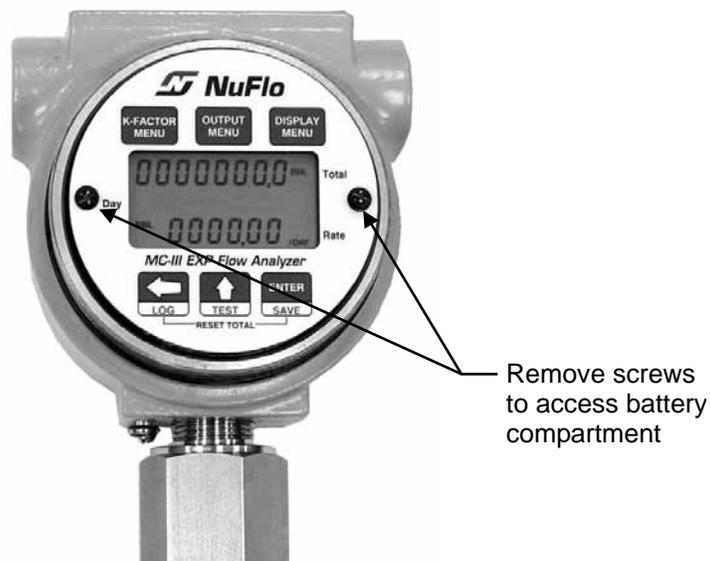

Figure 6.1— Removal of faceplate/keypad assembly
2. Using a small standard blade screwdriver, remove the two #4-40 × 7/8" screws located to the right and left side of the display (Figure 6.1, page 86).